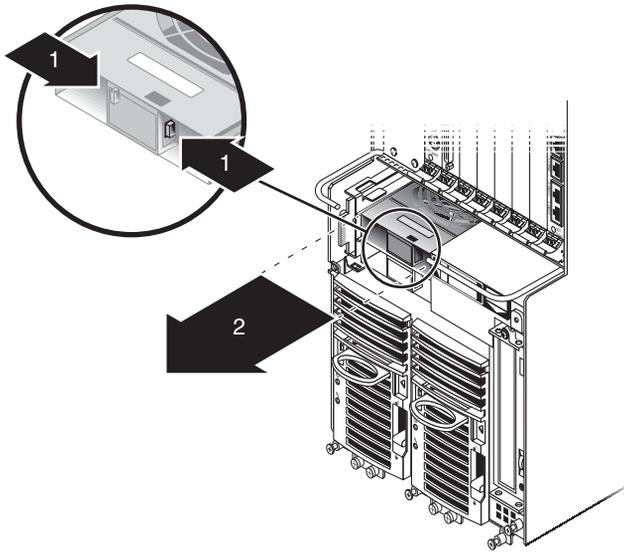

FIGURE 2-4 Removing a Fan Tray from a Netra CT 810 Server
- If you are removing a fan tray from a Netra CT 810 server, squeeze on the tabs on the sides of the fan tray handle to disengage the tray from the server (FIGURE 2-4).
- If you are installing a fan tray into a Netra CT 810 server, press the fan tray into place until it clicks into place (FIGURE 2-4).